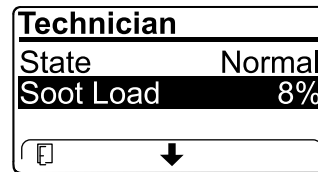

Figure 43
- View the soot load which is measured as the percentage of soot in the DPF (Figure 43); refer to the soot-load table.